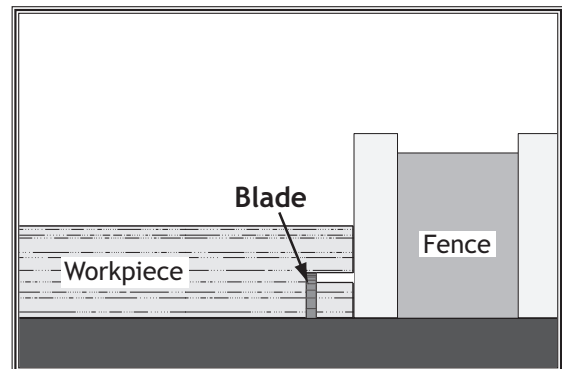

Figure 65. Rabbet cutting with a standard blade.
7. Lay the workpiece flat on the table, adjust the saw blade height to intersect with the first cut, as shown in **Figure 65**, then perform the second cut to complete the rabbet.